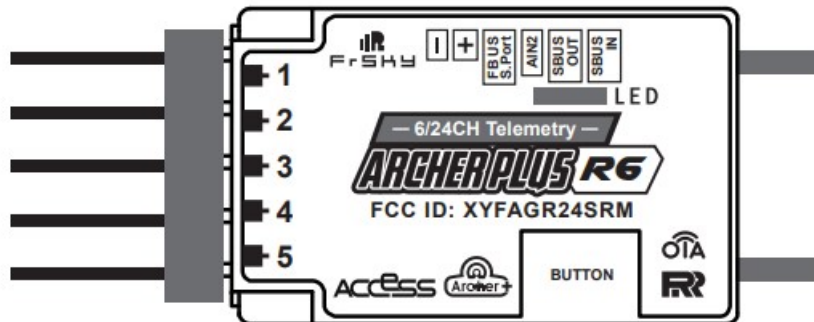

Figure 33: Archer Plus R6
- Telemetry power cable connected to AIN2. (Figure 33)
ii. On the Archer Plus R6, hold down the receiver button while powering up the Archer Plus R6. See figure 33.